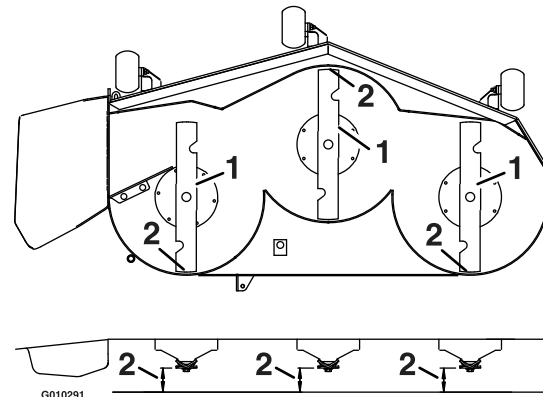
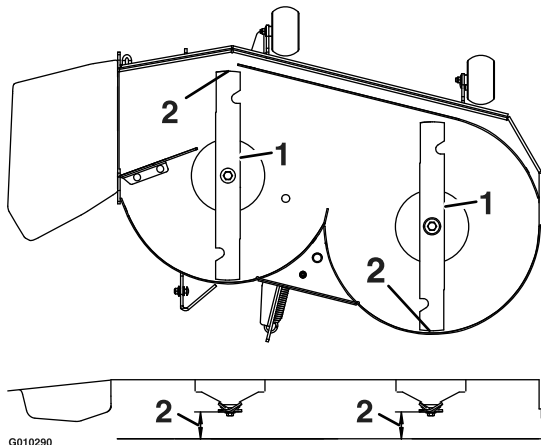

Figure 32
Figure 33
1. Rotate the blades until the ends face forward and backward (Figure 32 and Figure 33). Measure from a level surface to the cutting edge, of the blades. Note this dimension.